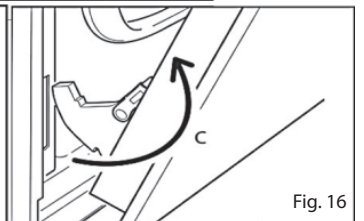

Fig. 16
- Follow Ok C and remove the hinge hooks from their places (Figure 16).